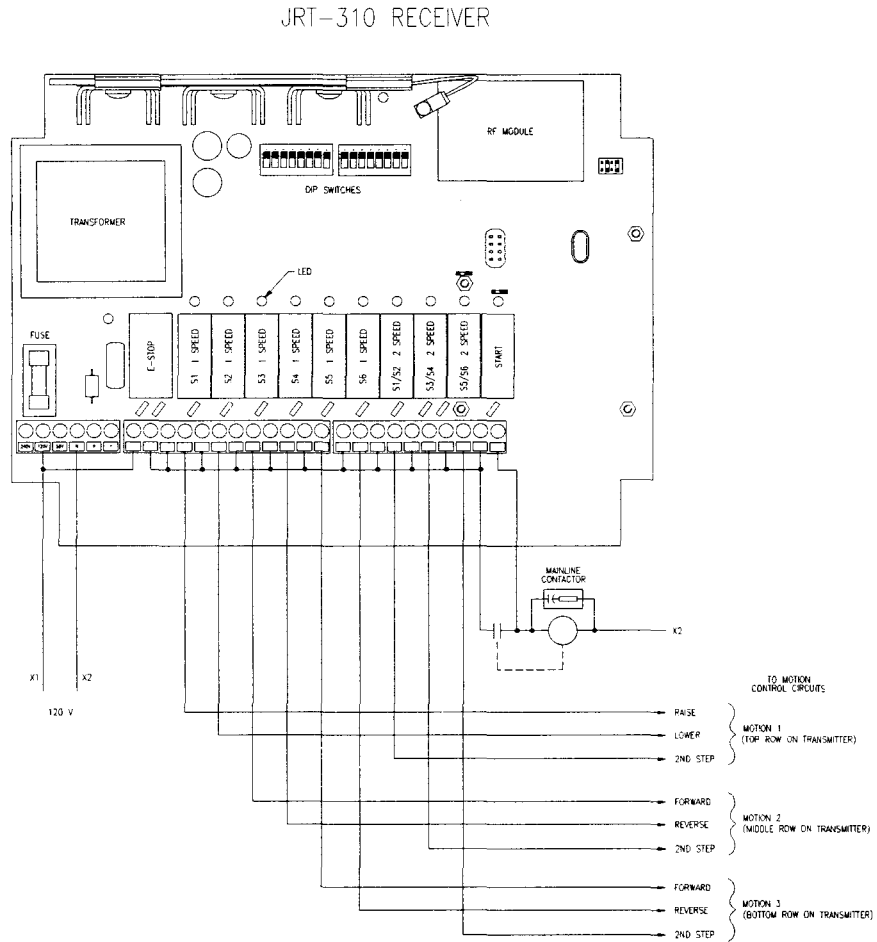

Figure 2.5: PulseStar•jr. Receiver Circuit Board
NOTE: Figures 2.5 and 2.6: PulseStar•jr. Receiver Circuit Board show how to wire the receiver board for a two-speed application. For single-speed applications, wire only the FORWARD and REVERSE terminals for each motion.
- Connect the output wires to the terminal blocks as shown in Figures 2.5, 2.6, 2.7 or 2.9 which ever is appropriate for your application PulseStar•jr. Receiver Circuit Board.